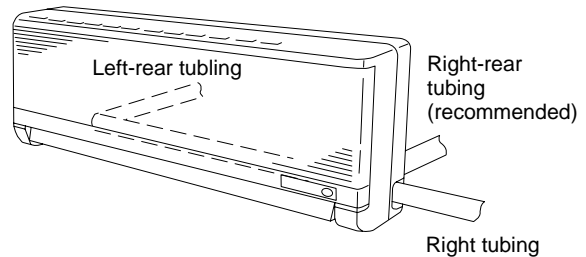

**Fig. 9**
- (5) Measure the thickness of the wall from the inside edge to the outside edge and cut PVC pipe at a slight angle 1/4" shorter than the thickness of the wall. (Fig. 9)